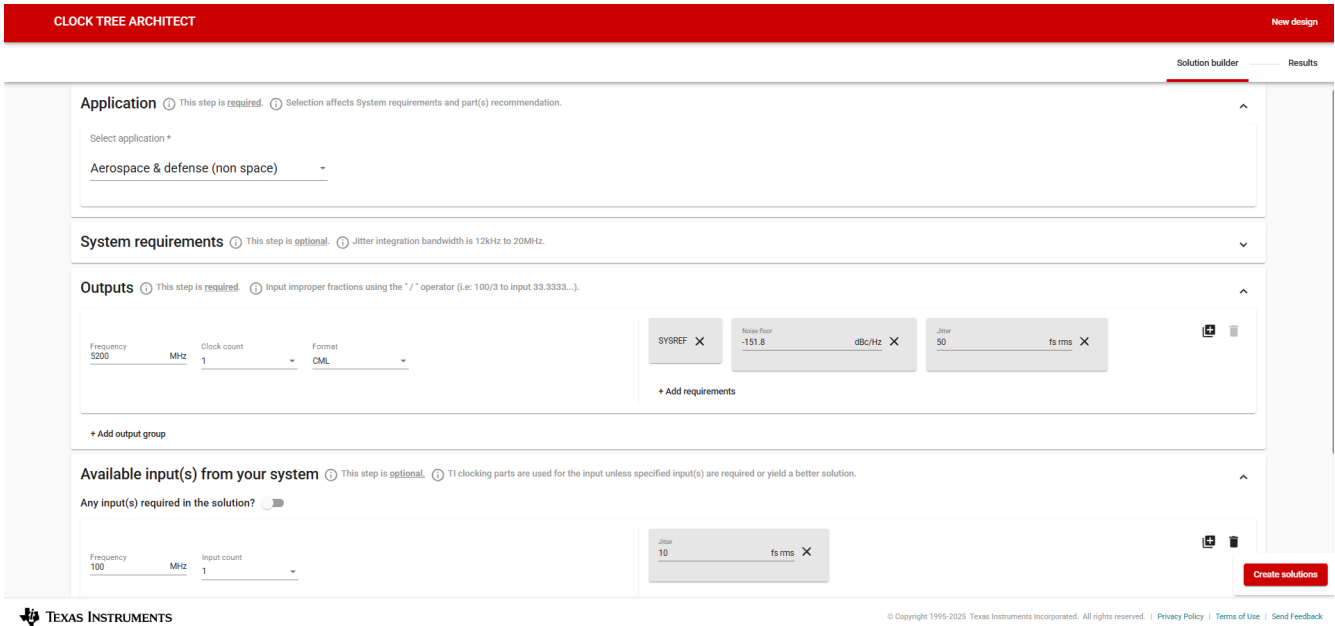

Figure 9-7. Finalized CTA Setup
5. After filling in all sections that pertain to your application, click the *Create designs* button on the bottom right. Figure 9-7 demonstrates the finalized system setup for CTA to propose viable clocking suggestions.